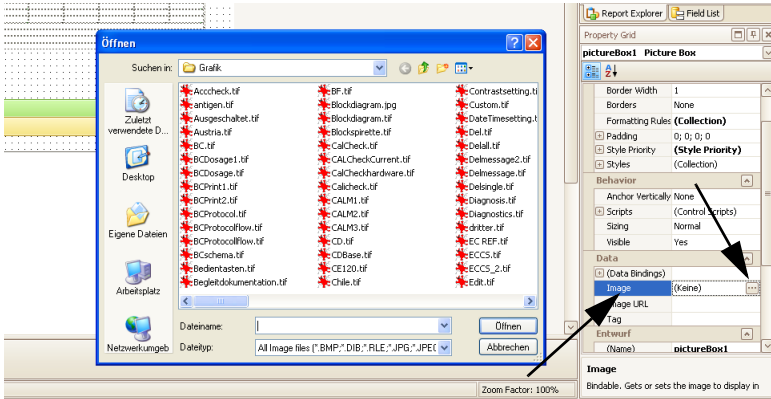

Fig. 10-6 Image button
- Select **Image** and click  to open the Explorer (Fig. 10-6).
- Select the logo. (Fig. 10-6). The logo will appear in the frame.